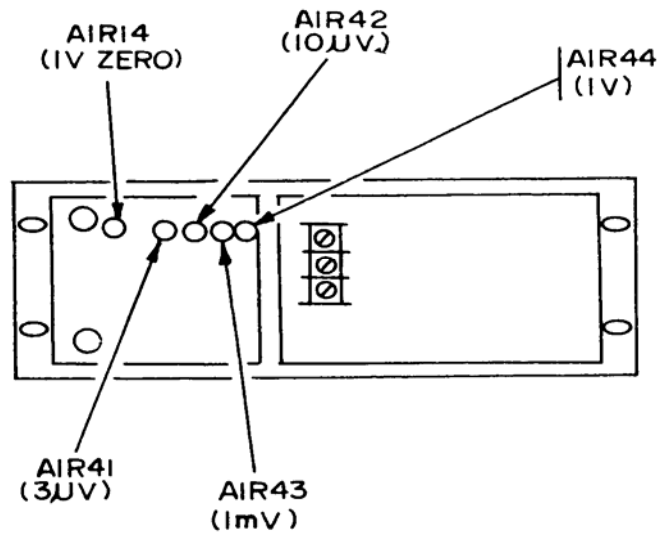

Figure 5. Dc generator detector - rear interior view - adjustment locations.
(1) Adjust A1R14 1V ZERO (fig. 5) for a 0 (zero) indication on TI meter.
(2) Adjust calibrator controls for a 0.003000 V output and adjust A1R41 3 μV (fig. 5) for a 3 μV indication on TI meter (R).